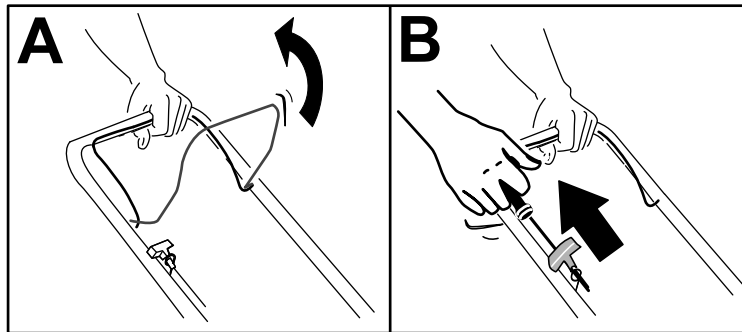

Figure 11
1. Pull the blade-control bar to the handle and hold it (A of Figure 11).
2. Pull the recoil-start handle (B of Figure 11).